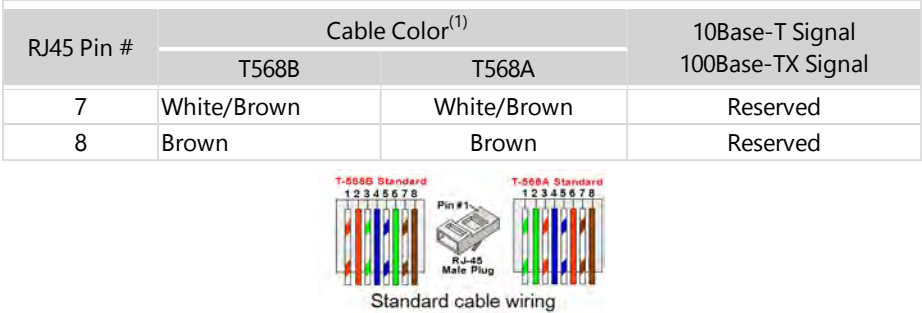

Figure 26: Standard wiring
- c. Insert the eight wires into an RJ45 connector (see Figure 26).
8. For the switch/router side, use a pre-terminated cable or use a crimper to prepare an RJ45 communication connector: Insert the eight wires into the RJ45 connector in the same order as above (see Figure 26).